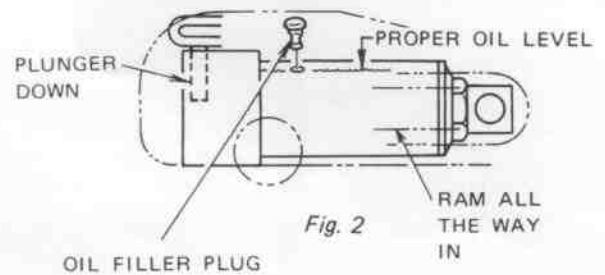

Fig. 2
**Adding Oil:** With Saddle fully lowered & jack on level ground, remove Filler Plug (See Fig. 2). Oil should be filled to level of oil filler plug hole. If low, add oil as needed.